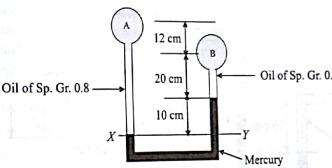

Figure 12.18
- 12.3 Determine the pressure difference between points A and B, as shown in Fig. 12.18.